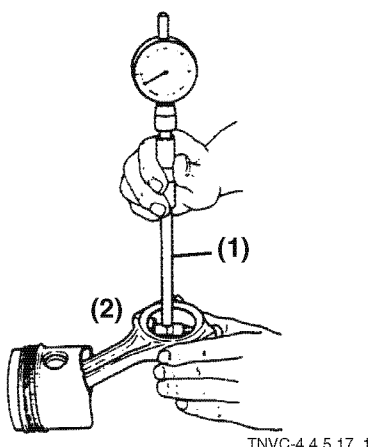

Figure 5-41
2. Measure the connecting rod bearing (**Figure 5-41, (2)**) inside diameter using a dial bore gauge (**Figure 5-41, (1)**).